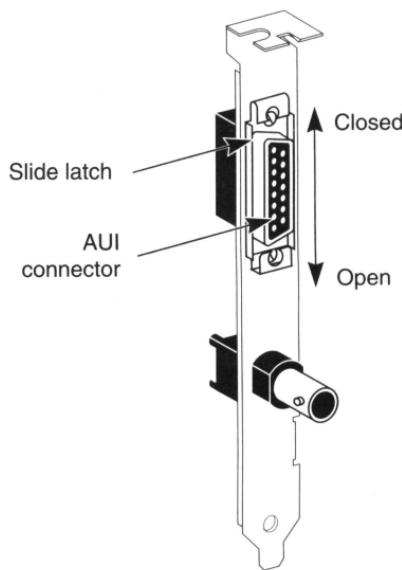

Figure 5-4. Slide Latch
1. Locate the adapter's AUI connector and move the slide latch to the closed position to lock the cable, as shown in Figure 5-4.